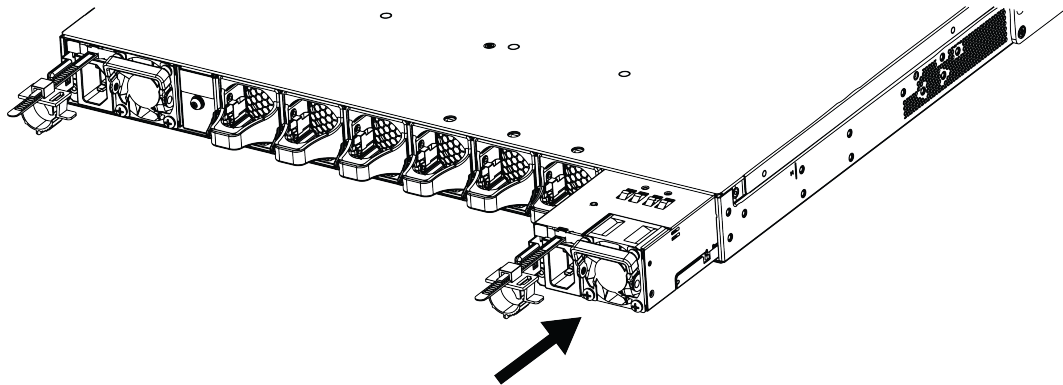

Figure 26: Installing an 550 W AC Power Supply
6. Carefully slide the power supply all the way into the power supply bay (see Figure 26).